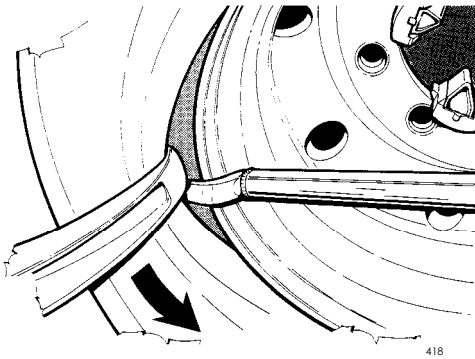

Fig.30
3. Lift the chuck arm enough to clear the hook 2-3 cm (1"-1"1/2) from the rim flange. Move the mount/demount tool towards the outside. This will allow you to place the long bar in between the bead and the rim flange for necessary prying (Fig.30).